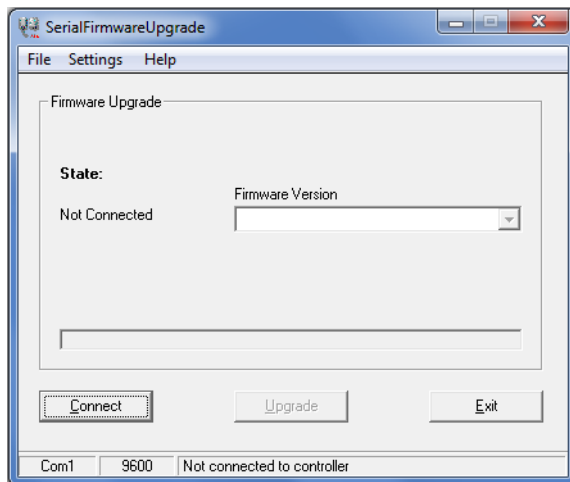

Figure 42. The Serial Firmware Upgrade dialog box.
3. Select **ABB Start Menu > ABB Industrial IT 800xA > Engineering > Utilities > Serial Firmware Upgrade**. The dialog as in Figure 42 appears.